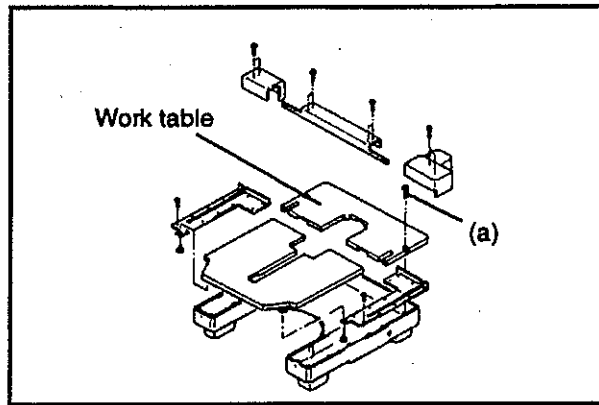

FIG.1
- (1) Remove two retaining screws (a) and work table B (Fig.1).